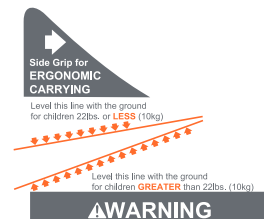

Fig. 52-1
- 2. Safety Seat without Base:** Check that the Safety Seat is level side to side on the vehicle seat. Check the Seat Angle Indicator that matches the weight of your child (Fig. 52-1).